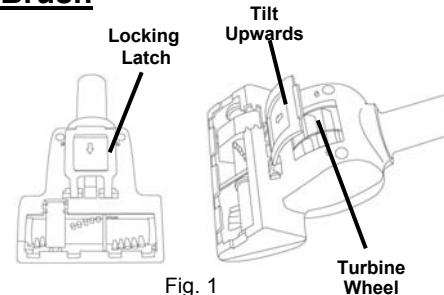

Fig. 1
2. Turn turbo brush over and open the hinged cover to access the turbine wheel. (see Fig. 1)